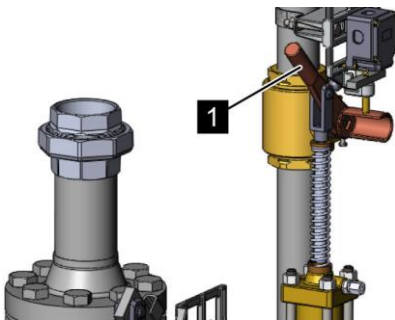

Fig. 135: Closing the selector valve
1. ➤ Fit the hand lever (Fig. 135/1) onto the operating element of the selector valve.
3. ➤ Take off the hand lever of the operating element (Fig. 135/1) and store it safely in the vicinity of the system.